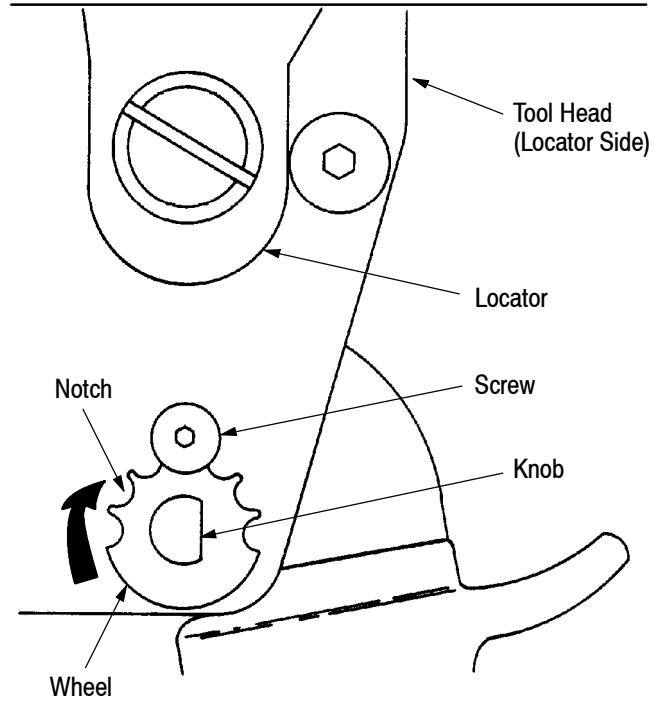

Figure 4
5. To adjust the ratchet, refer to Figure 4 and perform the following: